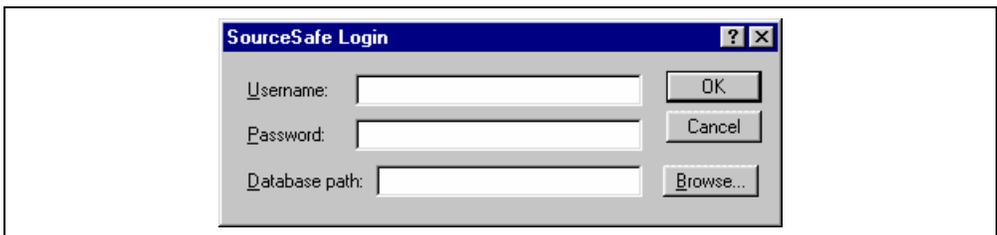

Figure 9.1: SourceSafe Login Dialog
3. Click “OK” to confirm the selection. The SourceSafe Login dialog is displayed (figure 9.1).